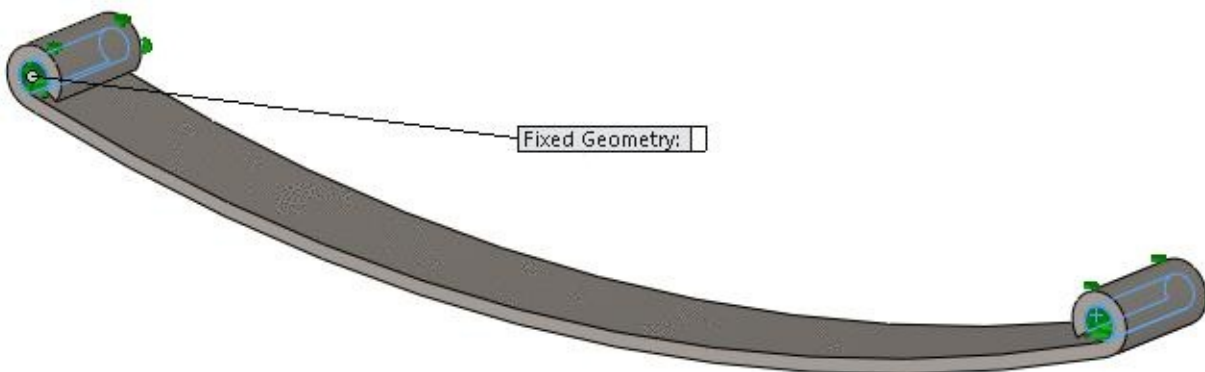

Figure-4. Faces to be fixed
- Select the round faces of the model; refer to Figure-4.